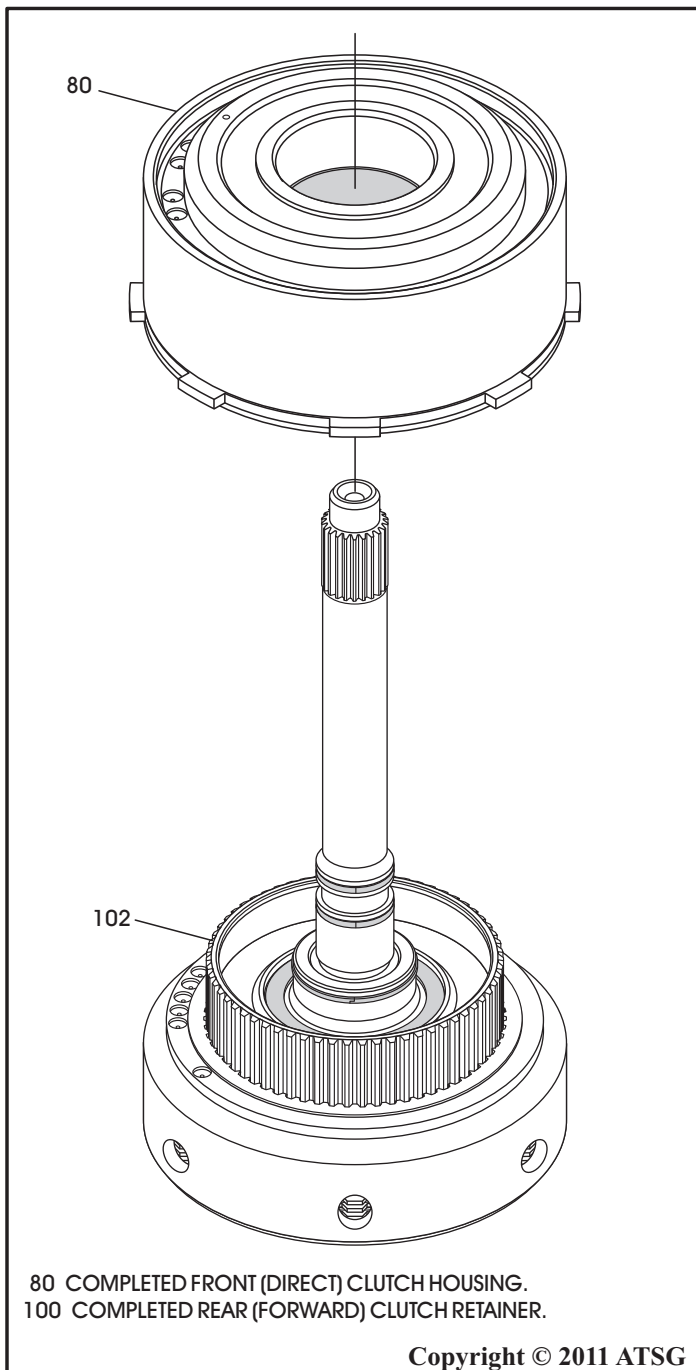

Figure 131
22. Install completed front (direct) clutch housing onto the rear (forward) clutch housing, as shown in Figure 131, by rotating back and forth until fully seated.